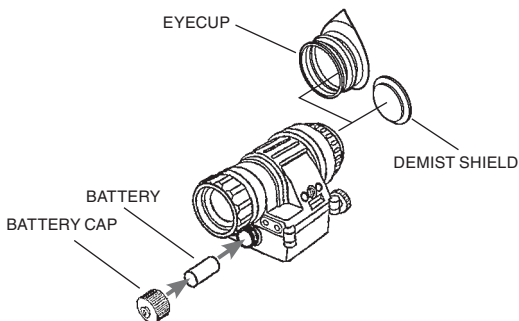

FIGURE 2.1. BATTERY AND EYECUP INSTALLATION
3. Observe polarity, as indicated on the outside of the battery compartment and insert one 3.0 Volt CR123A Lithium battery into the battery compartment, minus (-) end first (Figure 2.1.).
Perform the following procedure to install eyecup or eyeguard onto the monocular. Refer to Figure 2.1.
Perform the following procedures to install the demist shield on the eyepiece lens. Refer to Figure 2.1.